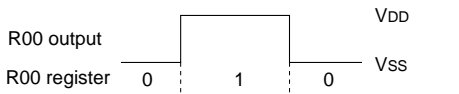

Fig. 4.3.5 Output waveform at DC output selection
- Output waveform is shown in Figure 4.3.5.